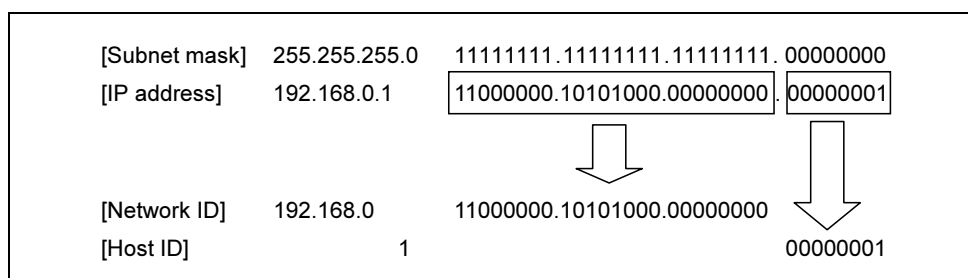

Fig. 2.1.2 Relationship between IP address and subnet mask
Subnet mask	<p>This is the data that defines the border (mask) for the IP addresses so that TCP/IP can distinguish the [Network ID] from the [Host ID].</p> <p>It consists of 32 digits, each of which is 0 or 1. A "1" that appears in the subnet mask denotes that the corresponding bit is a part of the [Network ID], while a "0" denotes that the corresponding bit is a part of the [Host ID].</p> <p>For instance, a subnet mask "255.255.255.0" is first translated in the binary form to "11111111.11111111.11111111.00000000". If it is applied to an IP address "192.168.0.1," the first 24 bits of this IP address (192.168.0) are recognized as the [Network ID], and the last 8 bits (1) as the [Host ID]. (Refer to Fig. 2.1.2 Relationship between IP address and subnet mask.)</p>